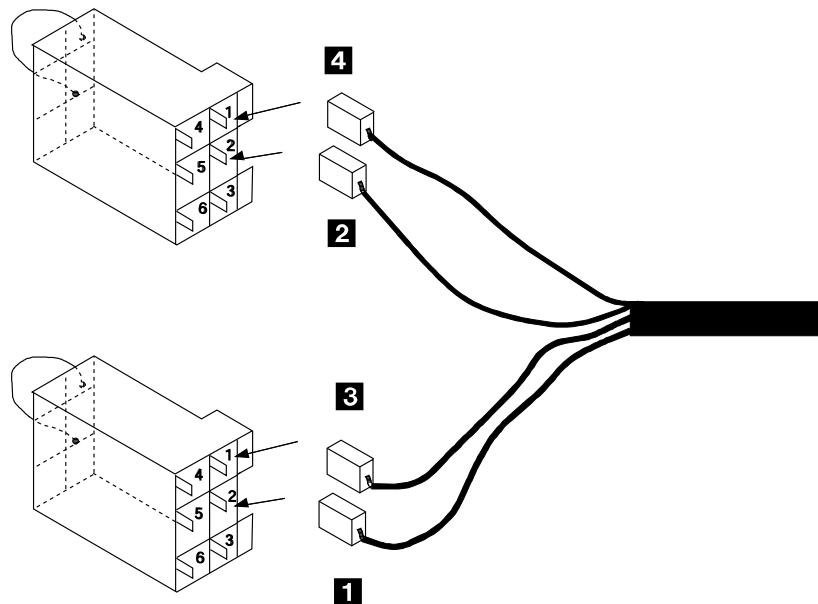

Figure 2-31. EPO Plugs (PN 8482303)
- Step 1. ____ Connect the UEPO cable (PN 76F9341) leads **1** and **3**, and **2** and **4** to the EPO plugs (PN 8482303) pins 1 and 2 (see Figure 2-31).